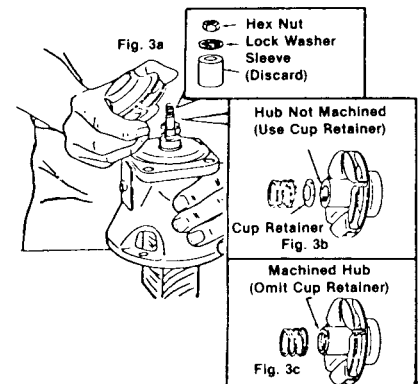

FIG 3. Installing impeller on new bearing assembly
- 5 Position new bearing assembly on a wood block (**FIG. 3**) to force shaft upward while installing Impeller. Then install impeller as follows: